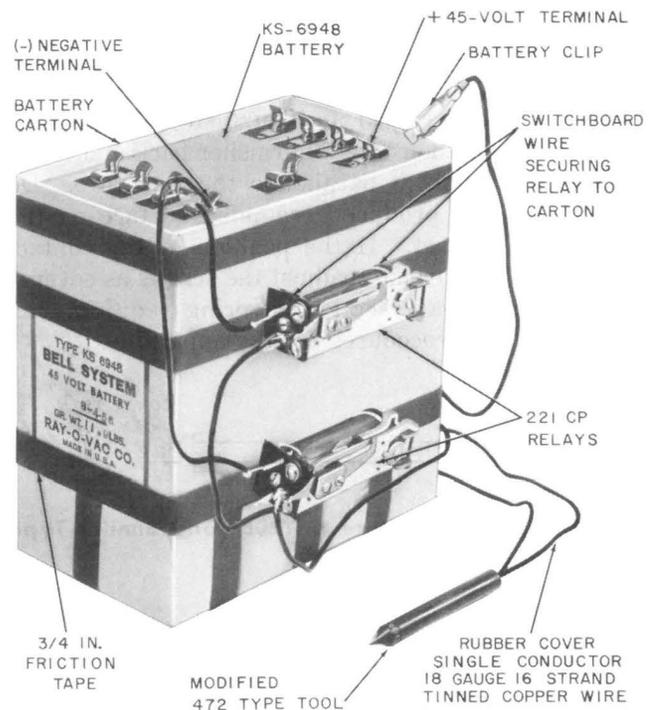
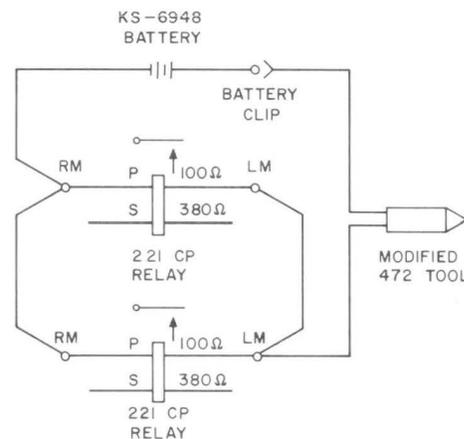

Fig. 21—Equipment for Arc Method of Cleaning VON Contacts 3—4 on Digit-Absorbing Selector, SD-32183-01
Fig. 22—Wiring Diagram for Arcing Equipment Shown in Fig. 21
4.25 Arcing Equipment Required: The equipment shown in Fig. 21 is required for the arc cleaning method and should be prepared locally. This equipment is wired as shown in Fig. 22 and provides means of producing an arc across the VON contacts when the contacts are broken. Referring to Fig. 21 and 22, two 221CP relays are connected in parallel between a KS-6948 battery and a modified 427-type tool. The modified tool is used to connect the arcing circuit across the VON contacts at the test jack of the switch. This equipment may be prepared as follows:
(a) In order to make the arcing equipment a convenient self-contained unit, a KS-6948 battery carton may be used to mount the relays as shown in Fig. 21. To prepare the carton for this purpose, remove the four cover flaps and reinforce the sides and bottom of the carton with friction tape as shown in the figure. Punch holes in one side of the carton just above two of the strips of tape and secure the relays to the carton by switchboard wire passed through the holes as shown in the figure.
- (c) Wire the arcing equipment as follows: Skin two 13-foot lengths of No. 18 rubber-covered wire approximately 3/8 inch from each end. Solder one end of each lead to a terminal of the tool tip. Pass both leads through the shell of the tool and screw the shell on the tip. Using the No. 18 wire, wire the equipment as shown in Fig. 22 connecting a battery clip to one of the 13-foot leads from the modified tool.